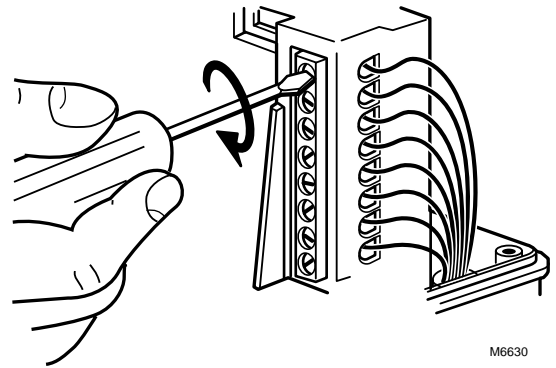

Fig. 6. Connecting power and control wiring to ML7425.
1. Feed power and control wires through the conduit connector located on the bottom of the actuator case. See Fig. 6.